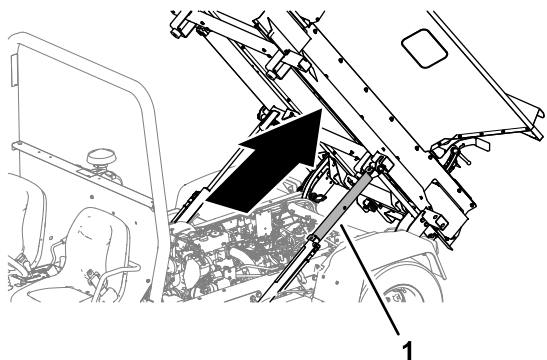

Figure 16
- 1. Raise the top dresser until the lift cylinders are fully extended. (Figure 16).
2. Install the bed support (Figure 16) onto the cylinder rod; refer to the *Operator's Manual* for your utility vehicle.